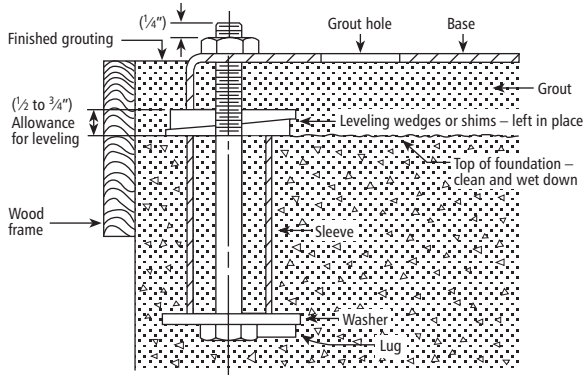

Figure 1
- Baseplate **MUST** be grouted to a foundation with solid footing. Refer to Figure 1.